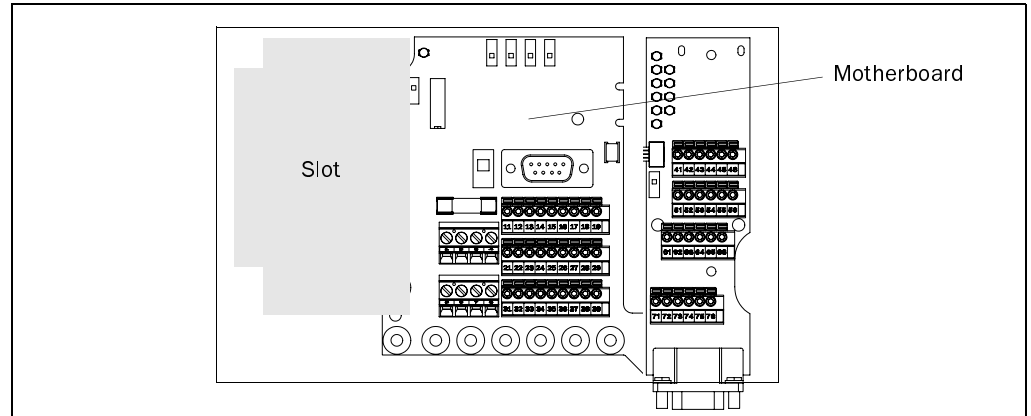

Fig. 2-1: Slot for the field bus gateway for DeviceNet in the connection module
3. Align the gateway in such a way that the grey connector points towards the front of the connection module. Insert the module to the left of the motherboard (Fig. 2-1). The SMD connector must rest on the mating connector of the motherboard.